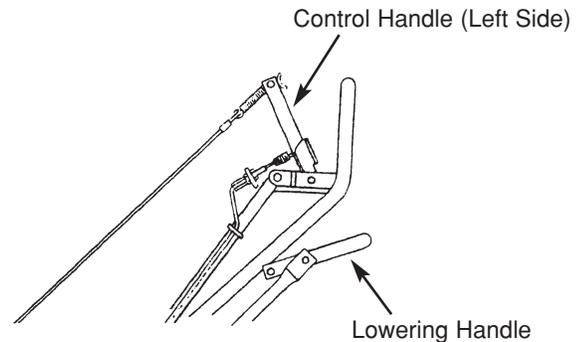

Fig. 1
1. Raise tines before transporting unit across surfaces or before transporting from one work area to another by lifting up on lowering handle (see Fig. 1).
2. Make sure the rear tires are in the down position (tines not touching ground). Slowly pull back on control handle(s). (See Fig. 1.)
4. Upon reaching the work area, release control handle(s) and push down on lowering handle (see Fig. 1) putting tines in the turf.